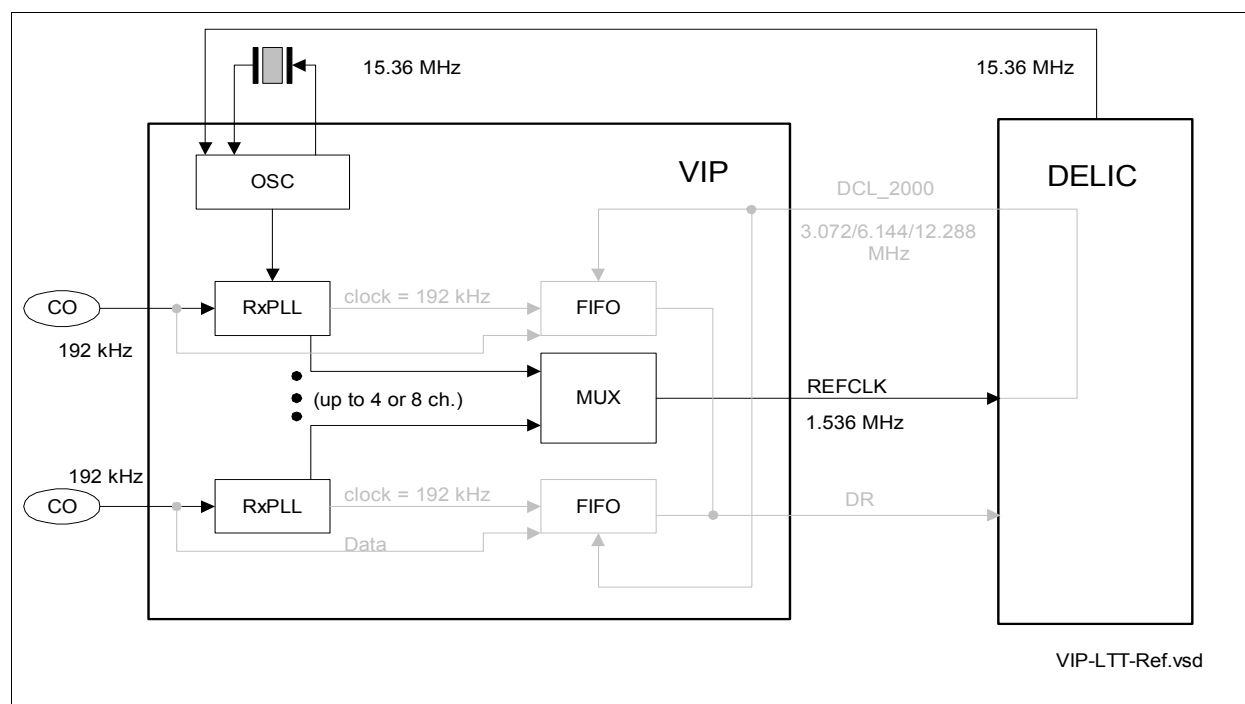

Figure 17 Clock Recovery in LT-T Mode
- The RxPLL also provides a 1.536-MHz clock synchronous to the Central Office clock (adaptive timing recovery), which in LT-T applications is used to synchronize the DELIC clock generator via the IOM-2000 REFCLK line; refer to Figure 17.